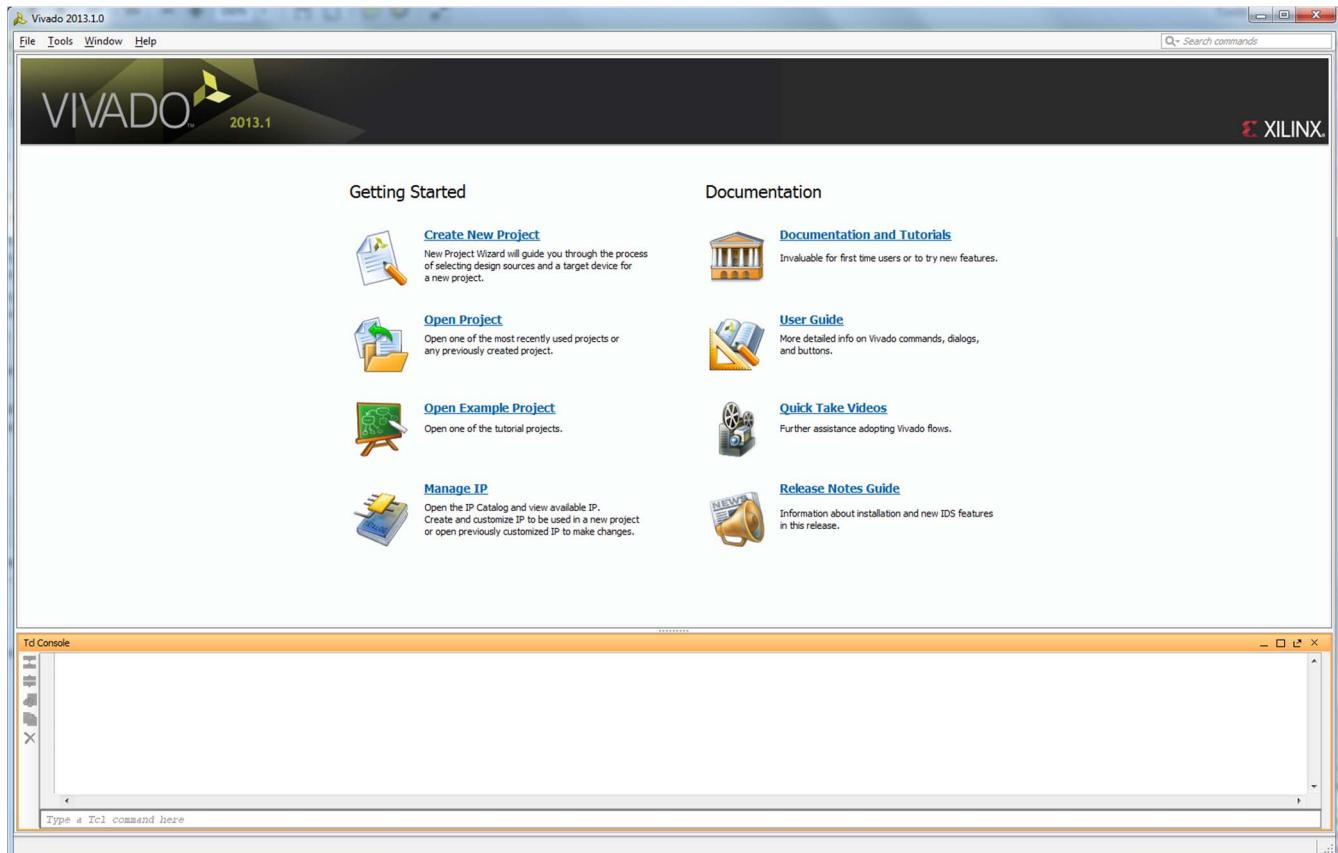
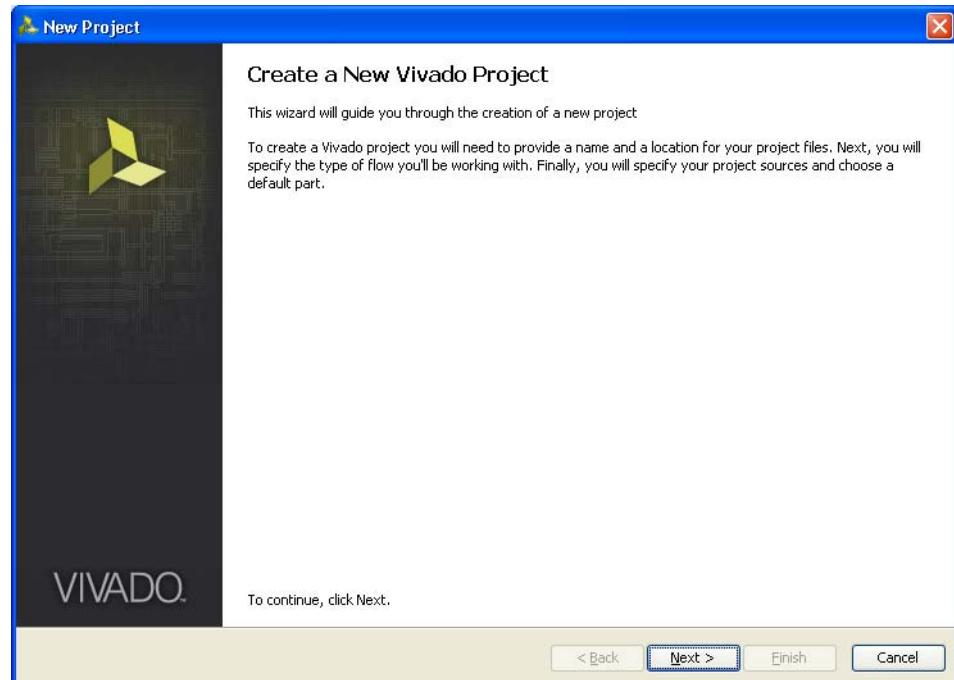

Figure 6-1: Vivado Tool
Figure 6-2: Create a New Vivado Tool Project
1. Invoke the Vivado IP (see Figure 6-1).
2. To create a new project, click the **Create New Project** option shown in Figure 6-1 to bring up the page as shown in Figure 6-2.